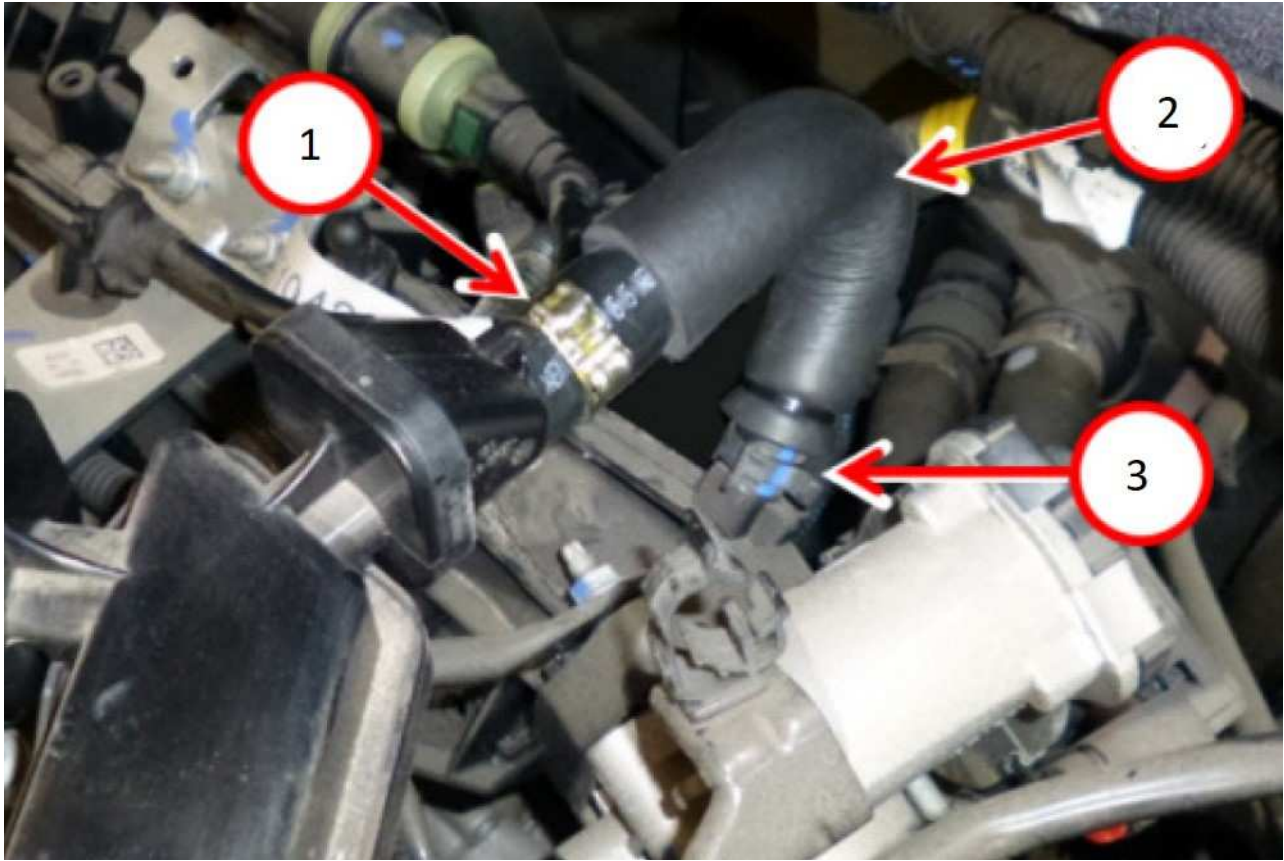

Fig. 5
9. Install the new engine oil vapor inlet tube with restrictor as follows (Fig. 5) :
- a. Install the tube to the intake air chamber and secure it with the clamp that was previously removed and saved (Fig. 5) .
- b. Install the tube to the oil vapor separator and secure it with the new clamp (Fig. 5) .